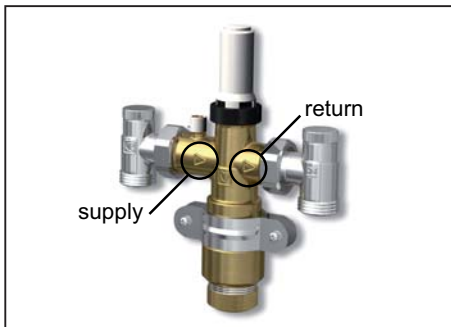

Figure 3. Direction of flow.
- Depending on where the LK Mini Loop Valve M5 is placed in relation to the inset point on the existing heating system, in certain cases, the floor heating pipes may cross. To avoid this, the mini circuit valve is reversible. Please note that the arrows on the valve housing indicate the direction of flow (see "Figure 3").